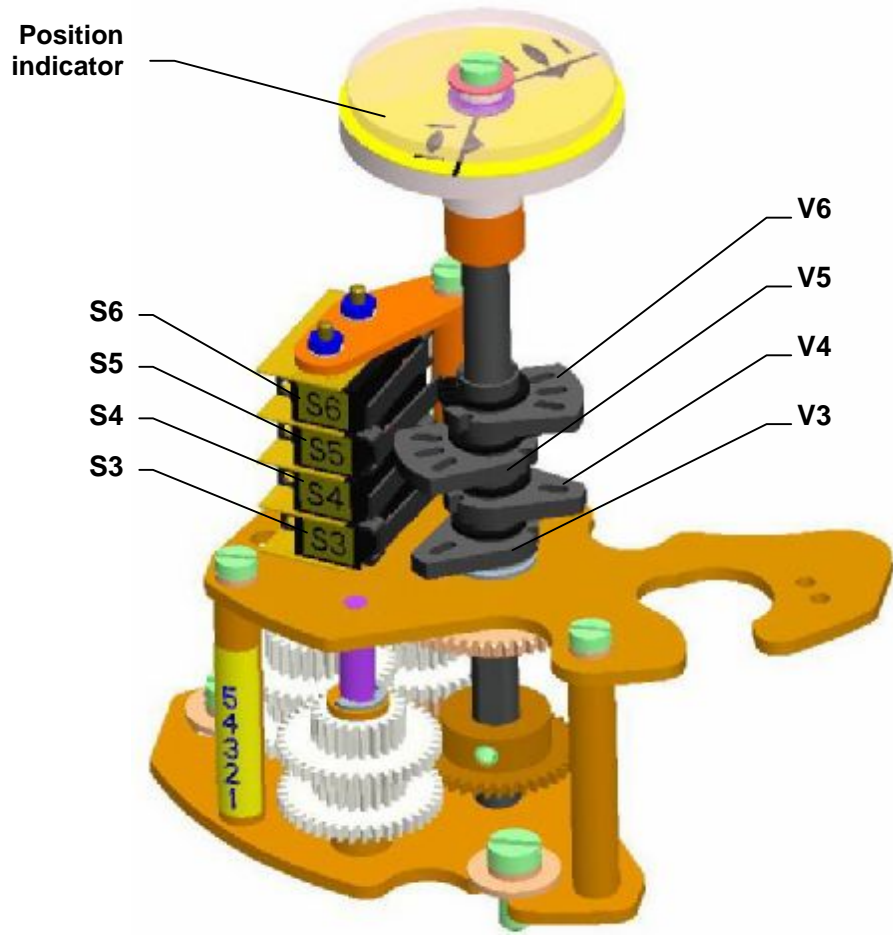

Fig.3a
**UL 0-Ex (Fig.3a):**
Proceed as follows to adjust, align and reset the limit and signaling switches (Fig.3a).